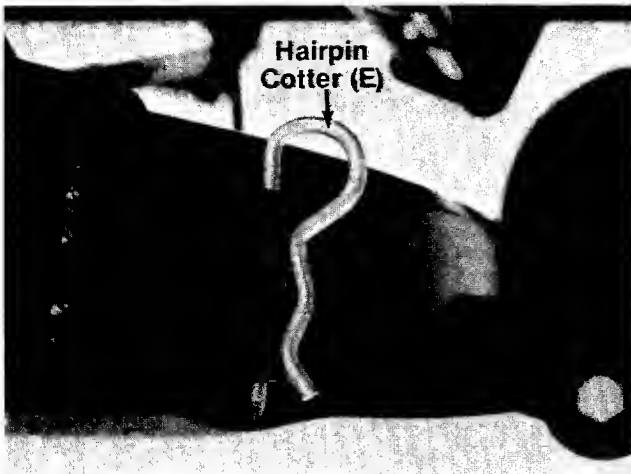

FIGURE 10.
Secure the **chute deflector** to the deck by placing the **large hairpin cotter (E)** in the **chute deflector bracket**, located on the front of the deck. See figure 10.